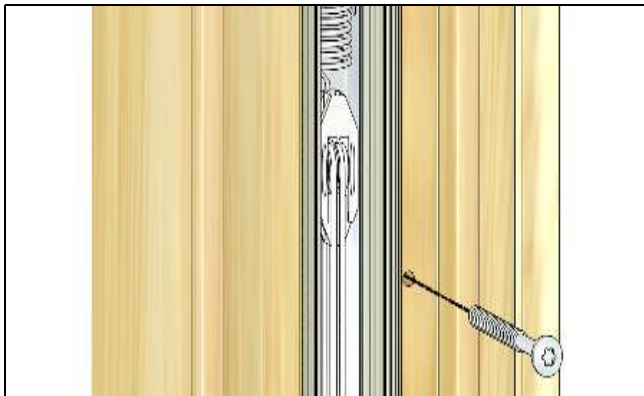

Figure 16
7. With bottom sash already tilted, lower the top sash slightly to access pre-drilled screw holes. When insert is square and plumb, hold unit firmly against blind stop or interior stop (depending on installation method), drive the four to eight - #8 x 3" T20 Torx pan head screws provided through pre-drilled holes in mid exterior cover and jamb wood. (Fastener quantity is dependent on size of the unit.) Do not over-tighten, some adjustment may be necessary later. See Figure 16.